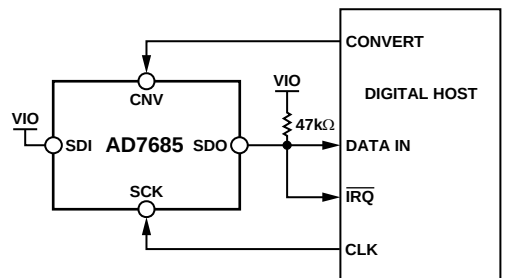
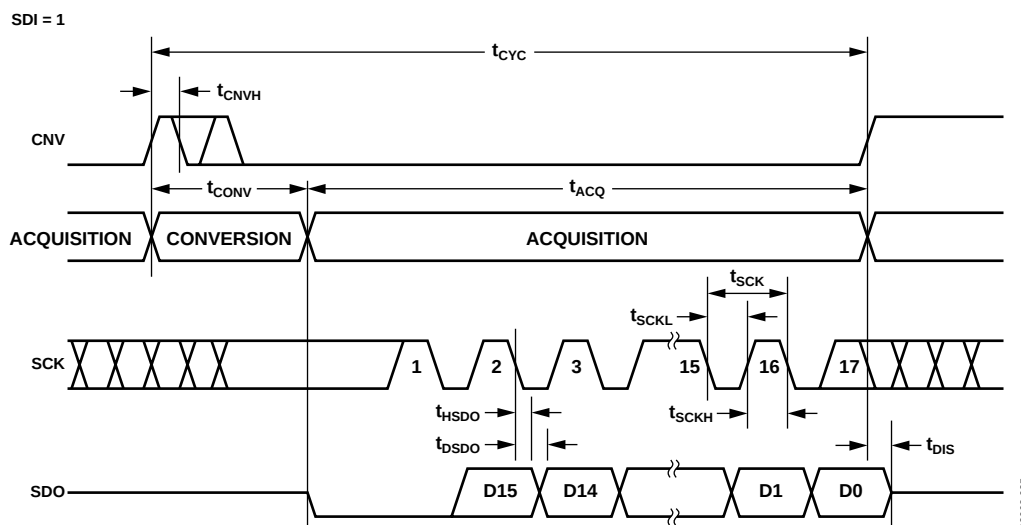
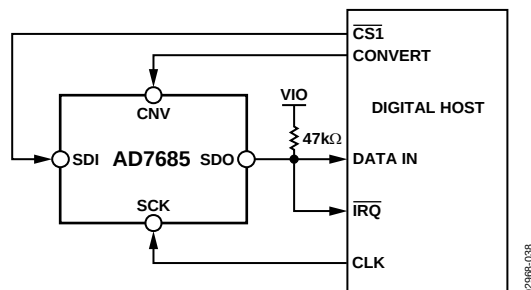
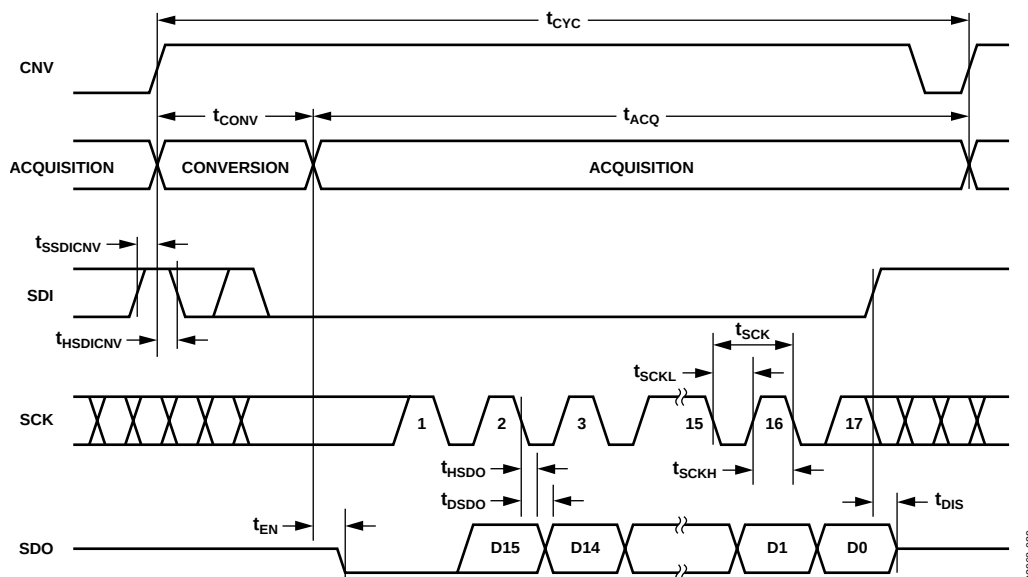

Figure 35. $\overline{\text{CS}}$ Mode 3-Wire with **BUSY** Indicator Connection Diagram (SDI High)
Figure 36. $\overline{\text{CS}}$ Mode 3-Wire with **BUSY** Indicator Serial Interface Timing (SDI High)
Figure 39. $\overline{CS}$ Mode 4-Wire with **BUSY** Indicator Connection Diagram
Figure 40. $\overline{CS}$ Mode 4-Wire with **BUSY** Indicator Serial Interface Timing
- In the $\overline{\text{CS}}$ mode, if CNV or SDI is low when the ADC conversion ends (Figure 36 and Figure 40).
The connection diagram is shown in Figure 35 and the corresponding timing is given in Figure 36.
The connection diagram is shown in Figure 39 and the corresponding timing is given in Figure 40.